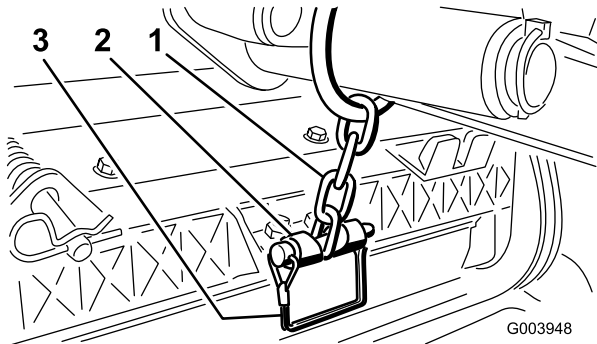

Figure 13
12. Secure the lift arm chain to the chain bracket with the snapper pin (Figure 13). Use the number of chain links described in the cutting unit *Operator's Manual*.